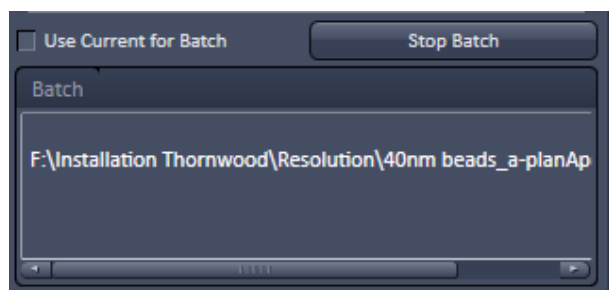

Fig. 382 SIM – Batch processing
- ☞ Once loaded the software immediately starts Batch processing and shows the current file (with directory) in the **Batch display** window, which is currently processed (Fig. 382). The **Batch display** window also shows the current state of batch processing in %. Once the button is pressed and the files loaded the system immediately begins to process the loaded files regardless if the **Apply** button is pressed or not.